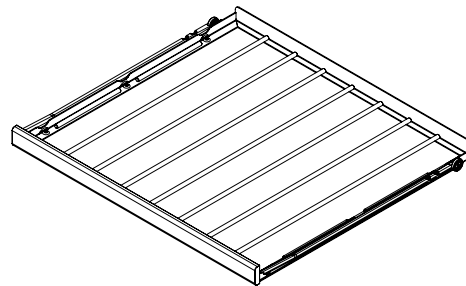

Figure 39
(2) pull-out wire wine shelf. (See Figure 39).